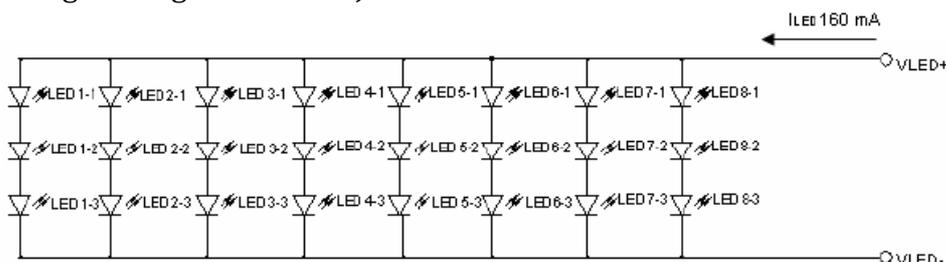

Figure 1.2 Backlight configuration of 7" TFT panel
- b. 22V high current boost white LED driver (CAT4139, On Semiconductor Inc). The CAT4139 is a DC/DC step-up converter that delivers an accurate constant current ideal for driving parallel strings of up to five white LEDs in series or up to 22V. TFT panels of larger size (>5.6") require a lot more white LEDs than small panels. Let's take an example from our 7" TFT panel. The white LEDs are organized in 8 parallel groups of 3 LEDs in series as shown in Figure 1.2. The current required is 160mA (20mA x8) and the voltage requirement is 9.9V. The CAT4139 is capable of delivering 750mA with voltage as high as 22V under a single 5V DC supply. Output of CAT4139 is routed to the high voltage connector J7.